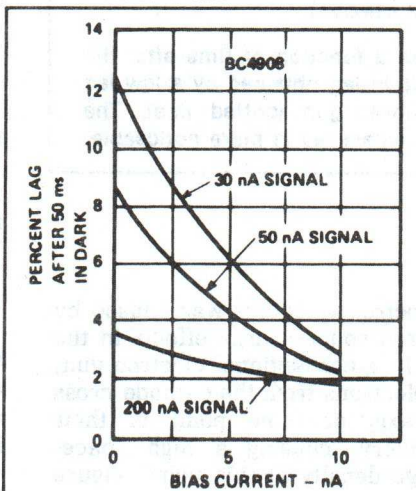

Figure 8 The lag of a Saticon photoconductor improves rapidly as the bias light is increased.
**Use of Bias Lighting**—Figure 8 illustrates the improvement in lag as the bias-lighting signal level is raised on the 18mm Saticon tube. The amount of bias lighting that can be used is limited by the uniformity of the background signal produced, which is determined primarily by the uniformity of the bias lighting. When cameras are operated at very low light levels and low signal levels (approximately 30 nA in the lowest signal channel), the practical bias-current limitation is 5 to 10 nA.